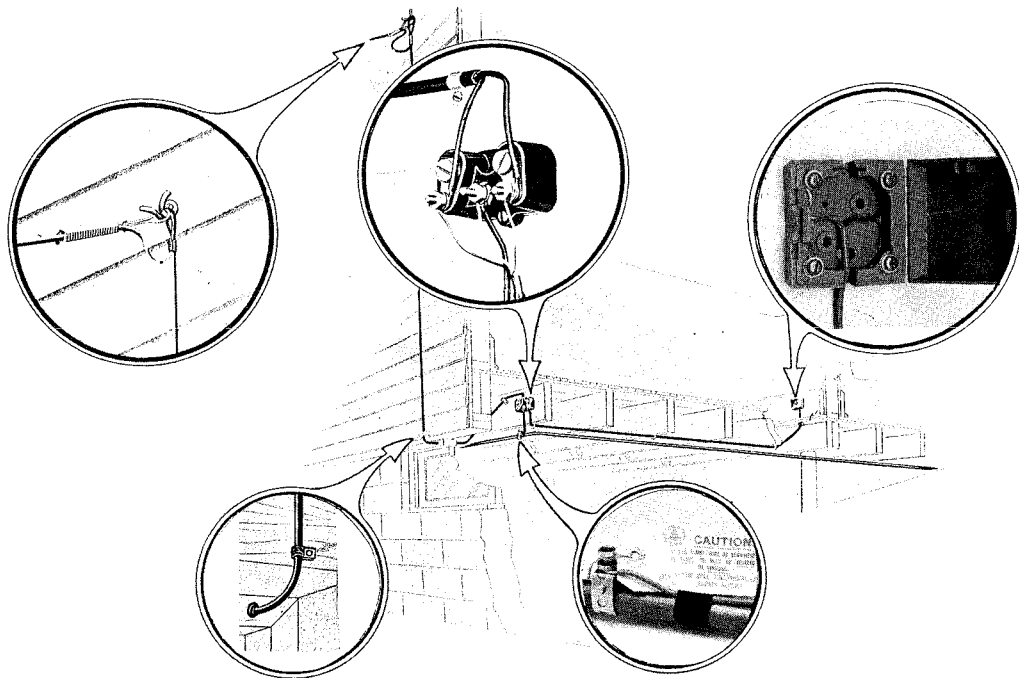

Fig. 1—Typical Wiring Routes
- 1.03** Figure 1 shows the various points which should be considered in selecting routes for wires. Consideration should be given to the location of the telephone, protector, and ground clamp, as well as to the drop wire and point of entrance, before planning the wire route.